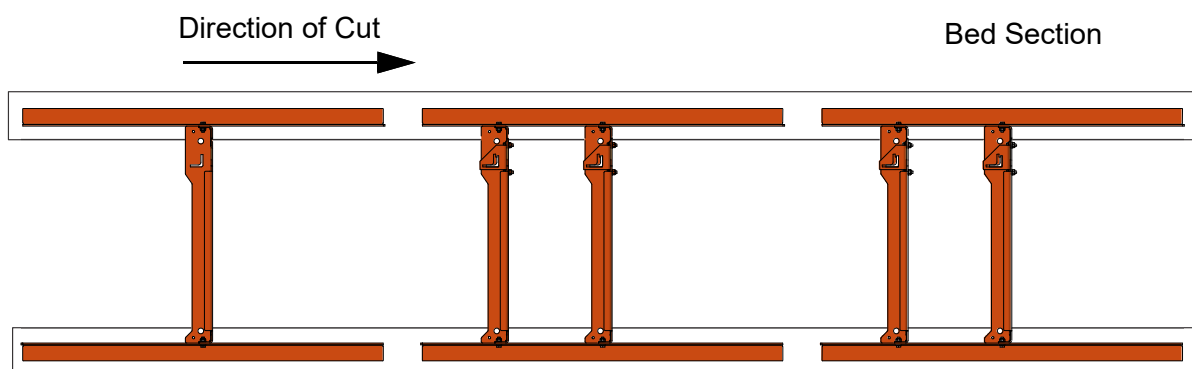

FIG. 2-4
2. Position all three assembled bed sections end-to-end in the order shown on the figure 2-4.
See figure 2-4.